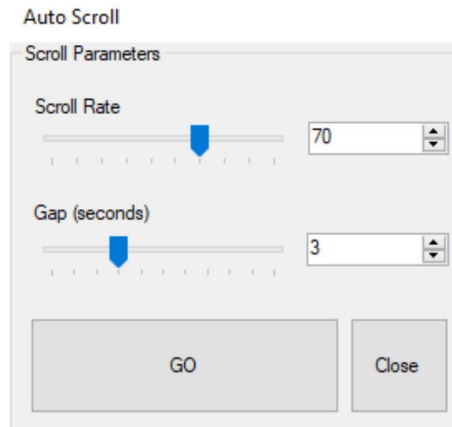

Figure 6: Screenshot of Auto Scroll menu to continuously cycle over full zoom travel range.
5. If lens detected, 'Connection Established to Zoom Lens' and ASCII messages should appear at the bottom of window (see highlight area *a* in Fig.6).
6. Click on 'Motors Enabled' (see highlight area *b* in Fig.6).
7. Ensure 'ZOOM UNLINK' is displayed. This indicates the zoom groups are currently LINKED together, and the 'Zoom Slave' slider should be greyed out (see highlight area *c* in Fig.6).
To zoom maximally out i.e. wide field of view and shortest focal length, move 'Zoom Master' slider all the way up (see highlight area *d* in Fig.6).
4. Adjust focus (via software slider) of zoom lens to focus on target (see highlight area *e* in Fig.6).